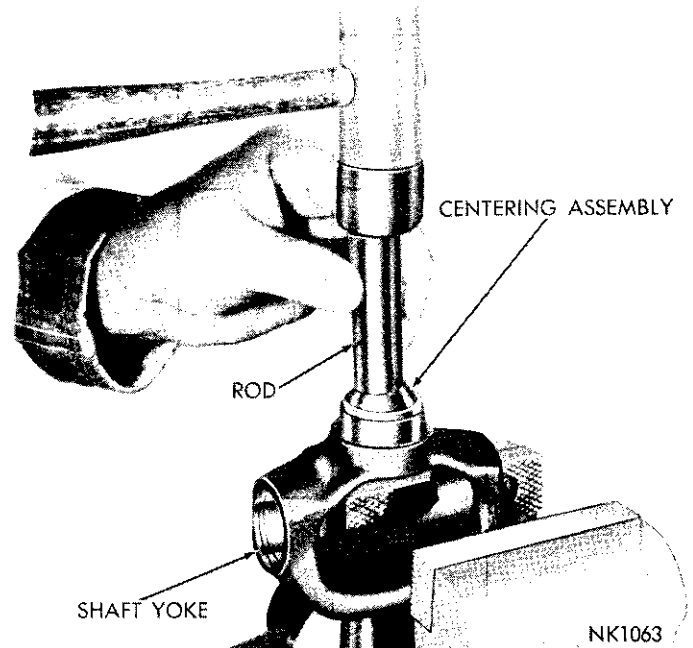

Fig. 16—Removing Centering Ball and Socket Assembly
(4) Insert a rod, slightly smaller than inside diameter of centering ball, into ball and strike it sharply with a hammer (Fig. 16). The force applied by initial hammer blow will force the ball and retainer assembly from yoke.